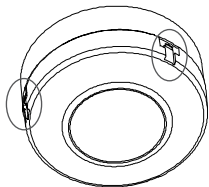
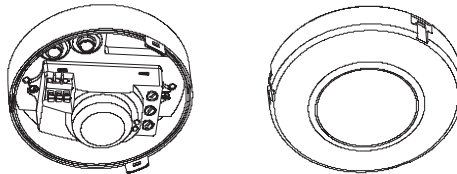

fig.1
fig.2
1. Through the buckle under cover(see fig.1)(fig2)